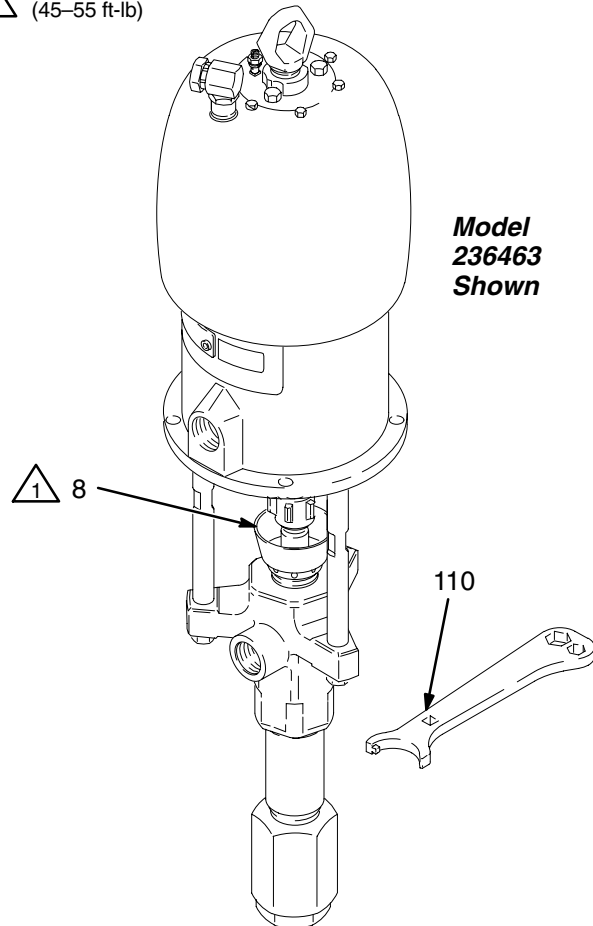

Fig. 3
Before starting, fill the packing nut (8) 1/3 full with Graco Throat Seal Liquid (TSL) or compatible solvent. See Fig. 3.